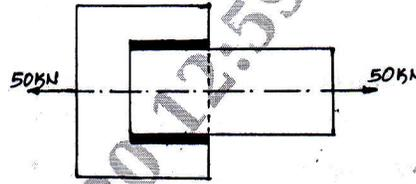

Fig.Q8(b)
- b. Two plates are joined by means of fillet weld as shown in Fig.Q8(b). The leg dimension of the weld is 10mm and the permissible shear at the throat cross-section is 75 N/mm^2 . Determine the length of each weld. (04 Marks)